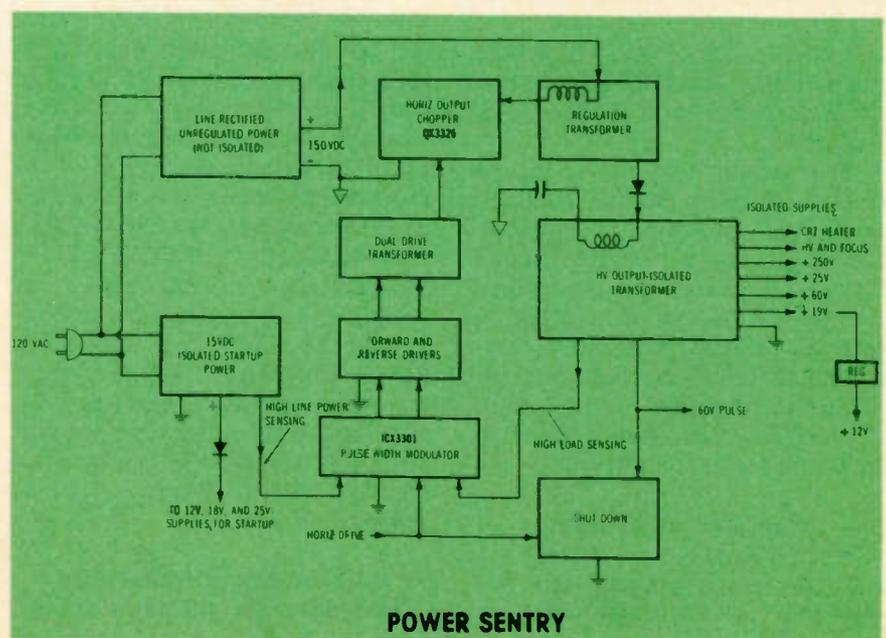

Figure 2 Basic functions of the M10 module and the separation of *hot* and *cold* grounds are shown by this block diagram.
Figure 2 The rotatable microwave feed assembly and electronic components of the Heathkit LNC are shown here after removal of the housing. This assembly is placed at the focal point of the parabolic reflector to receive the signal. Output IF signal (in the UHF band) goes through coaxial cable to the receiver.
- An antenna-mounted, low noise amplifier/down-converter (LNC in Figure 2) provides gain of 53dB to 59dB while giving a 270MHz-770MHz (television UHF band) intermediate-frequency output that is sent through 150 feet of coaxial cable to the satellite receiver. Dc power from the receive is required. Input signal from the parabolic antenna has a frequency range between 3.7GHz and 4.2GHz at a level from -75dB to -90dB. An internal geared motor automatically rotates the antenna feed assembly to select either vertical or horizontal polarization. The 120K (1.5dB) low-noise amplifier has a GaAs FET transistor.
In Zenith System-3 color receivers, the M10 module (Figure 1) performs these two basic functions: supplying dc power to the entire receiver, and producing horizontal deflection. There is no clear division between the two functions. As explained in previous articles, only two dc-voltage supplies are operated from line power (Figure 2). One is the *hot* 150V supply for the horizontal-output transistor. The other is a *cold* ground 15V supply used for start-up and other tasks. Neither supply is regulated; the voltage varies up and down with line-voltage and load changes.
The TX3352 HV transformer/flyback in Figure 2 acts as an isolation transformer that separates the *hot* supply at its primary winding from the *cold* ground and the low-voltage supplies produced by rectification of horizontal pulses from the secondary windings.
Other blocks in Figure 2 show the relationships between the pulse-width modulator, two driver transistors, a horizontal-output transistor (used also as the power chopper), the regulation transformer and the HV transformer.